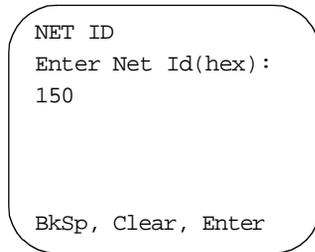

Figure E-3. Net Id Screen
2. Select **Net Id** from the CFG24 Menu. The *Net Id* screen (Figure E-3) is displayed.